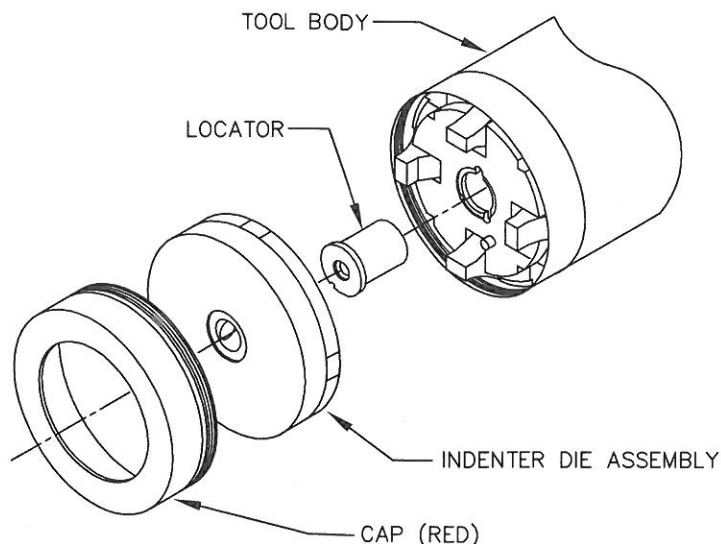
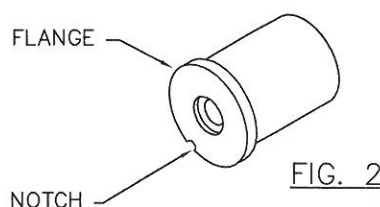
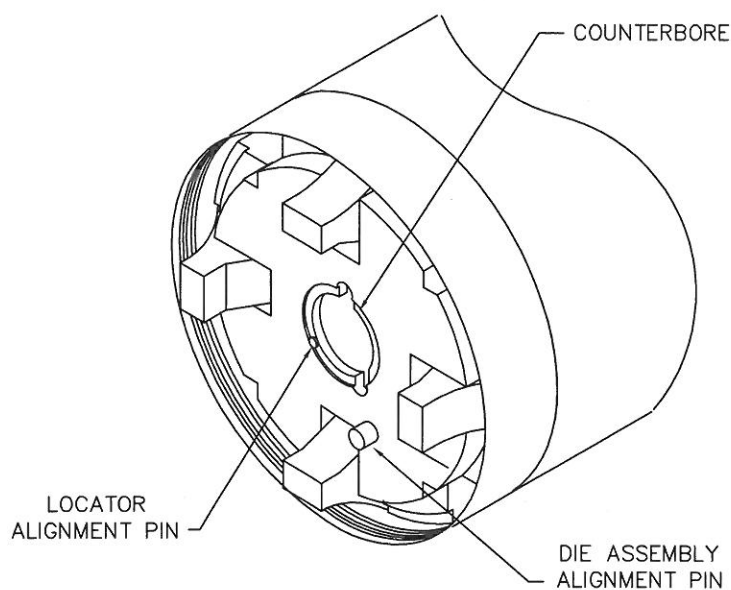

FIG. 1
FIG. 2
FIG. 3
1. Unscrew the retainer ring and remove die assembly, if installed. Insert the locator in the center hole, FIG. 1.
2. Verify that the flange on the locator is seated in the counterbore, and the notch on the flange, FIG. 2, is aligned with the locator alignment pin, FIG. 3.
1. Place the indenter die assembly, as shown in Fig. 1, onto the tool frame. The die assembly alignment pin, FIG. 3, must fit into the corresponding hole in the die assembly. Place the retainer ring over the die assembly Fig. 1, and tighten to hold the assembly flush with the tool body.